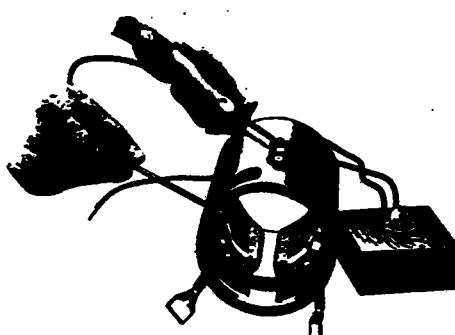

Figure 11-50.. Testing Motor Fields for Grounds
- a. Check the field coils for grounds (Refer to Figure 11-50) by placing one test probe on the frame and the other on the starter terminal. Be sure the brushes are not accidentally touching the frame. If the lamp lights, the fields are grounded. Repair or replace.